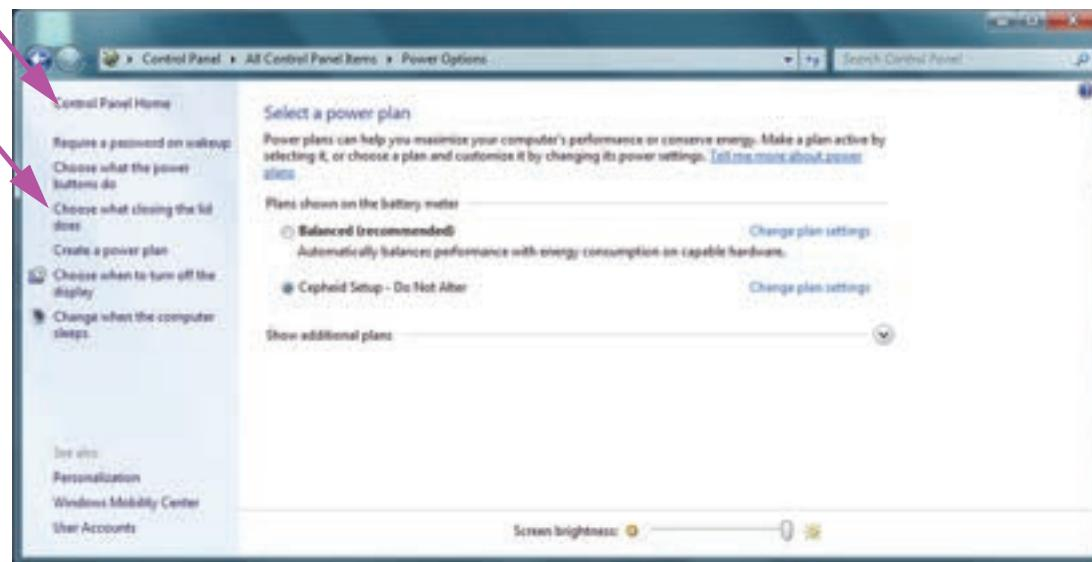

Figure 2-22. Power Options Window
8. Click **Cancel** to close the Edit Plan Settings window. The Power Options window appears (see Figure 2-22).